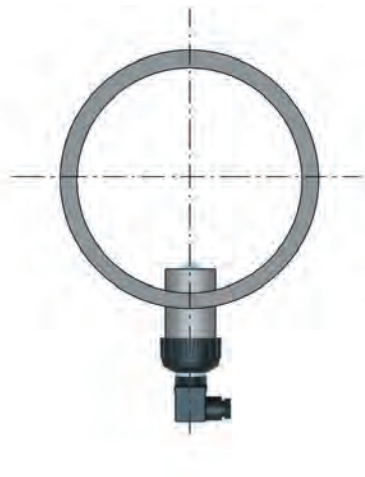
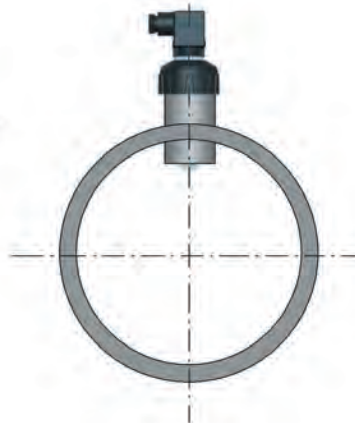
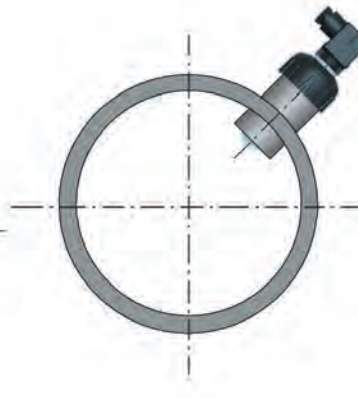

Fig. 1
Fig. 2
Fig. 3
- The six most common installation configurations shown in fig. 1 help in selecting the best location in the pipeline for paddlewheel flow sensor as well for magmeter flow sensor.
- The three configurations in fig. 2 ensure that the pipe is always full: for a correct measurement the sensor can NOT be exposed to air bubbles at any time.
- The three installations in Fig. 3 should be avoided unless you are absolutely sure the sensor is not exposed to air bubbles.
In a horizontal pipe runs, the mounting position to get the best performances is at a 45° angle (*Fig. 3*) to avoid air bubbles as well sediments. Vertical position (*Fig. 2*) can be chosen in case air bubbles are not present. Do not mount the sensor on the bottom of the pipe (*Fig. 1*) if sediments are likely. Do not mount paddlewheel at 90° otherwise friction can affect measurement. Except last consideration about 90° installation, all previous evaluations are valid for magmeter sensor also. Installation in a vertical pipe runs can be done fixing any orientation. Upward flow is preferred to ensure full pipe.